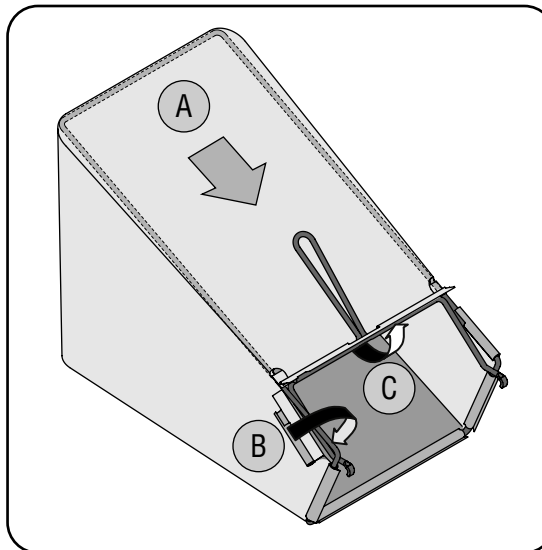

Figure 3-6
- Slip plastic channel of grass bag over hooks on the frame. See Figure 3-6. All the plastic channels except center top of bag attach from outside of bag.